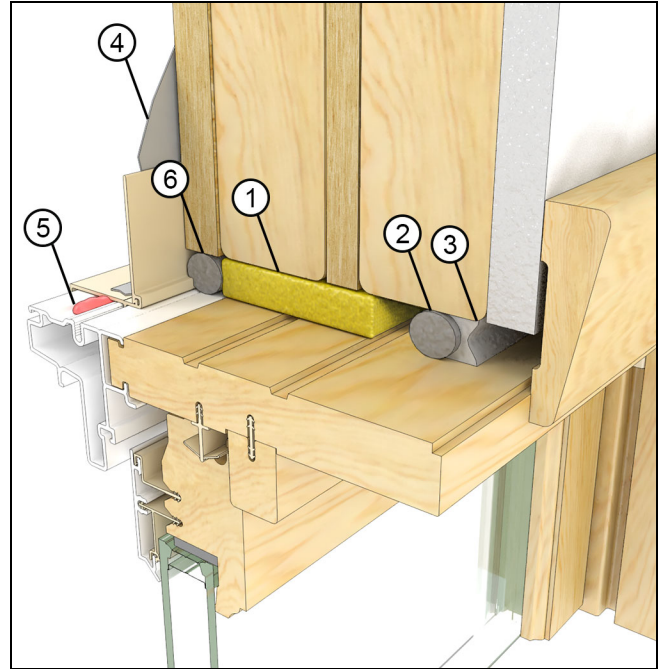

Figure 42
2. Low Expansion Foam. Install a backer rod at the exterior plane of the RO. Apply a low expansion/low compression closed cell foam in the cavity. Install a backer rod and sealant at the interior plane of the RO to create a continuous air seal. See Figure 42.